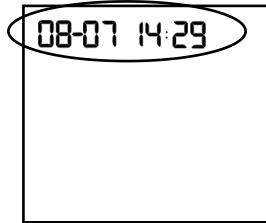

Fig. 14
- Press ◀ or ▶ button to select target time, press ⏻ button to save the time set and enter into start test number set. (Ref Fig. 14)